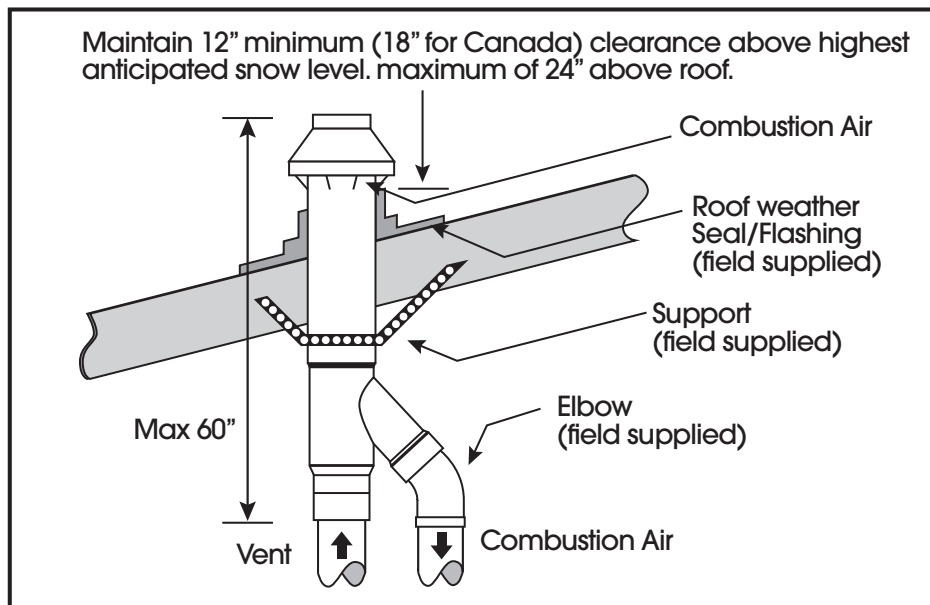

Figure 3–Typical Roof Install
7. Secure to roof (Figure 3) using metal strapping or equivalent support material (user supplied).
9. Cement furnace combustion air and vent pipes to Extended Concentric Vent. Refer to Figure 3 for proper pipe attachment.